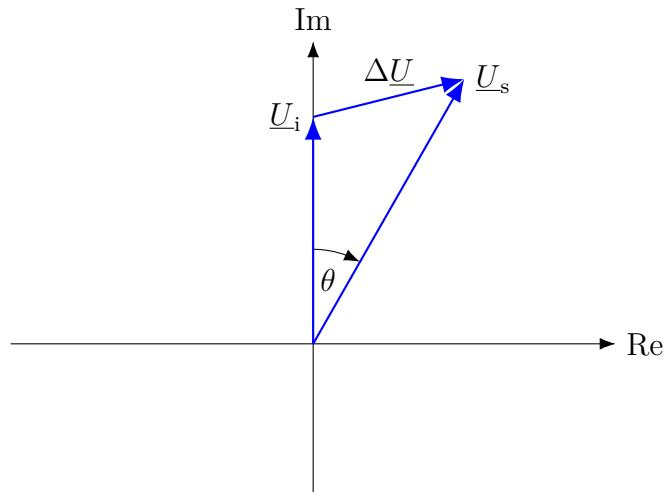

Fig. 3: Phasor diagram of a synchronous machine with scaling 1 kV = 1 cm and 1 kA = 1 cm.
A four-pole synchronous machine operates as a generator in a power plant and supplies 17 MW of active power to the power grid. The grid frequency is 50 Hz. The stator ohmic winding resistance of the synchronous machine is negligible and the excitation current is set to a constant value of 100 A. Fig. 3 shows the phasor diagram of the synchronous machine at a given operating point.
4.2 Determine the short-circuit current  $I_{sc}$  and add its phasor  $\underline{I}_{sc}$  to Fig. 3. [2 Points]
4.4 Determine the stator current  $I_s$ , the phase shift angle  $\varphi$  between stator current and voltage, and add the phasor  $\underline{I}_s$  to Fig. 3. [3 Points]